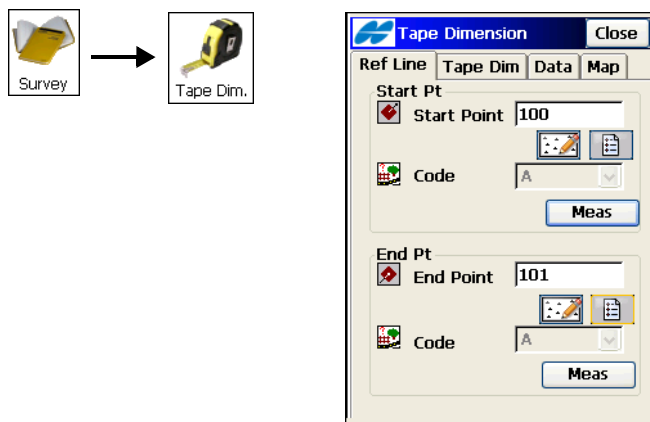

Figure 8-50. Tape Dimension – Ref Line Tab
1. To start working, tap **Survey ► Tape Dimension** (Figure 8-50).
2. On the *Ref Line* tab, enter the information about the two points that comprise the reference line: the names and codes (Figure 8-50). To observe the reference line points, tap the **Meas** button in the corresponding fields.